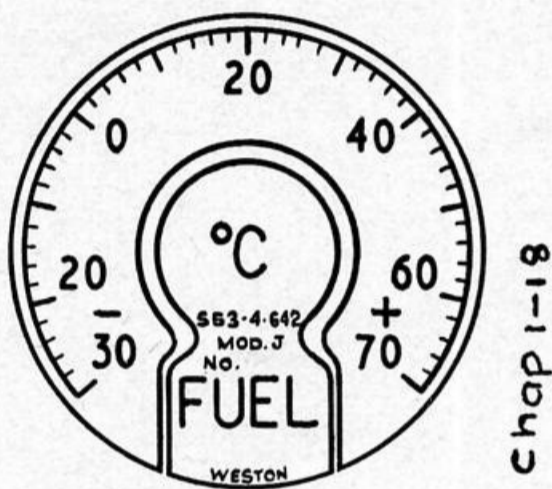

Fig. 1. Indicator, Type S63.4.642
1. This indicator (Ref. No. 6A/5218) (fig. 1) is calibrated in degrees C from -30 to +70; the indicator is controlled by variation of temperature in a resistance bulb which obeys a platinum law.